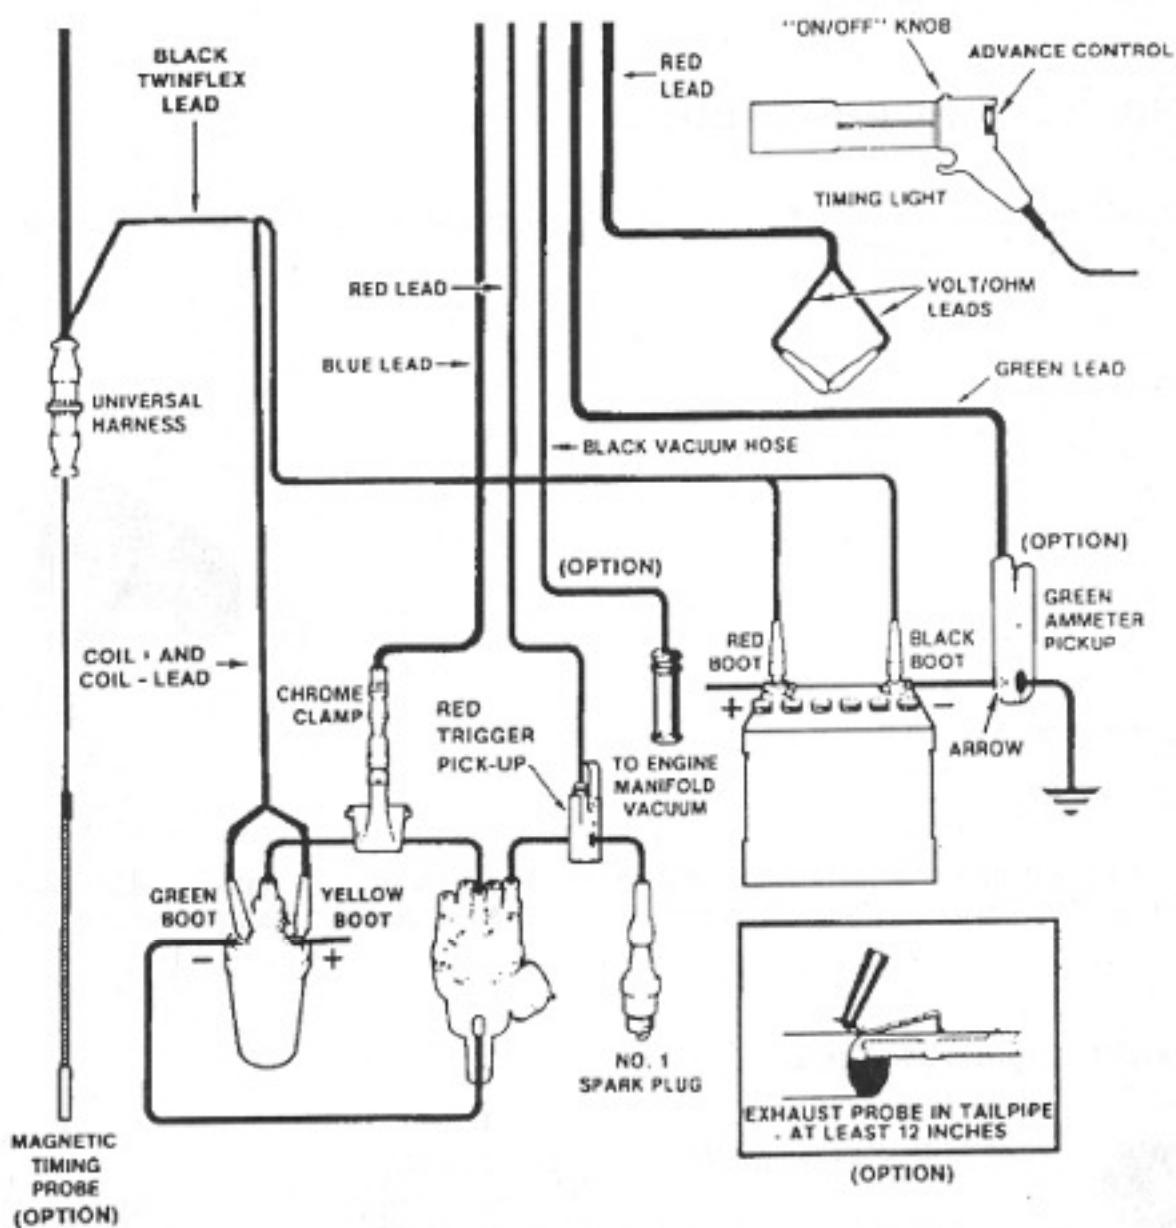

FIGURE 32. Tester Hook-up to Vehicle.
6. Press the **II** key. The CALIBRATION page (Figure 30) will be displayed. Short the volt-ohm leads together (reference Figure 32). The message SHORT VOLT/OHM leads will flash on and off on the VDU until this is done. Do not attempt tester calibration while the test leads are attached to a vehicle. Incorrect calibration will result. (Optional items not installed will not be displayed on this page.)
10. Connect the test leads always with the engine off (Figure 32) as follows: